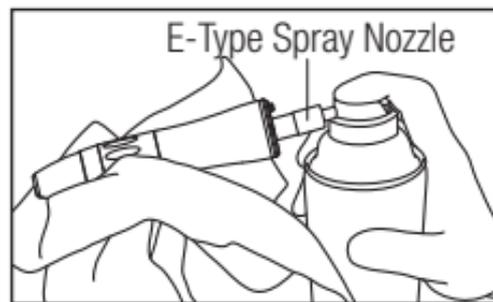

Fig. 17
- 3 Hold the handpiece, and spray for 2 or 3 seconds until oil comes out of the tip (Fig. 17). Repeat lubrication until foreign material stops coming out of the tip.